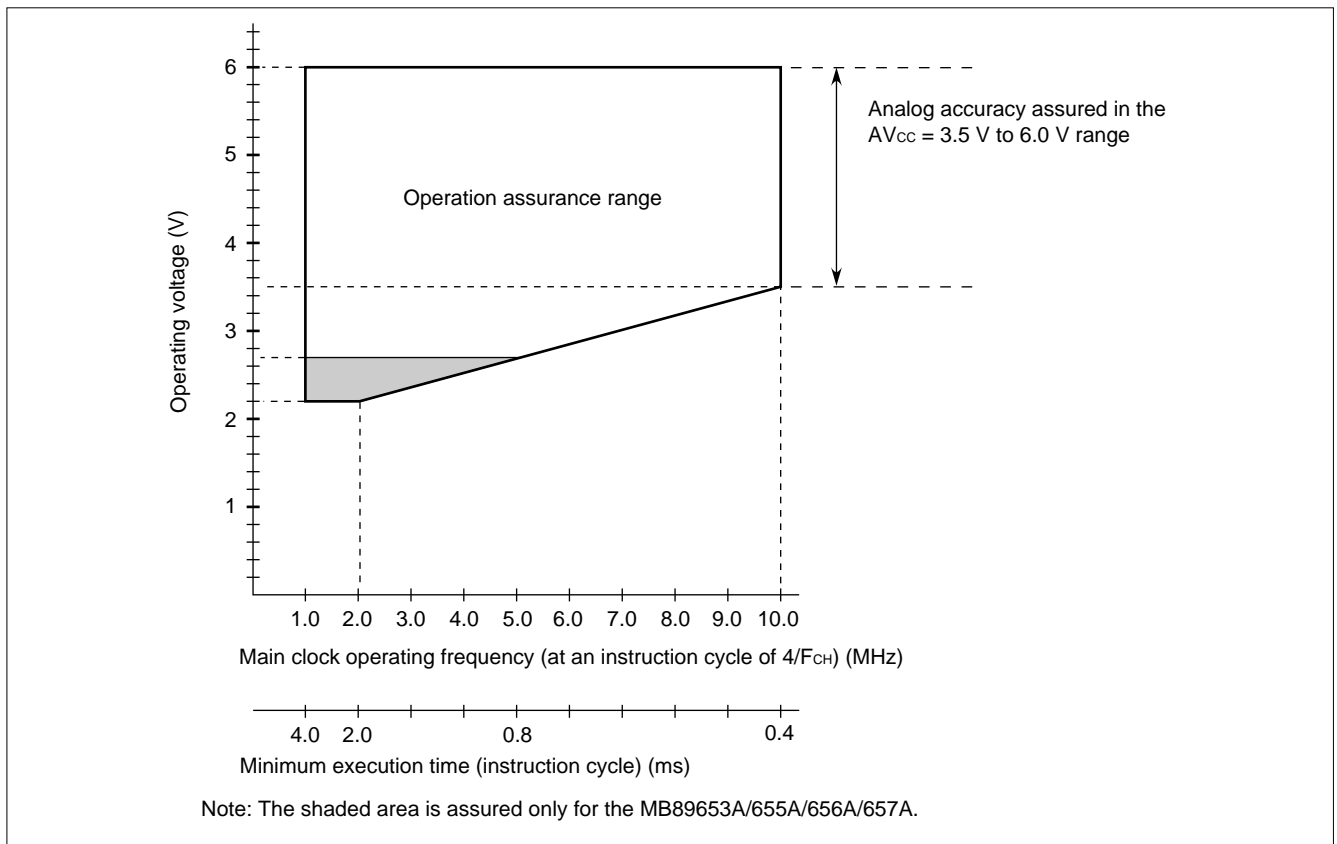

Figure 1 Operating Voltage vs. Main Clock Operating Frequency
* : These values vary with the operating frequency, instruction cycle, and analog assurance range. See Figure 1 and "5. A/D Converter Electrical Characteristics."
Figure 1 indicates the operating frequency of the external oscillator at an instruction cycle of 4/F_{CH}. Since the operating voltage range is dependent on the instruction cycle, see minimum execution time if the operating speed is switched using a gear.